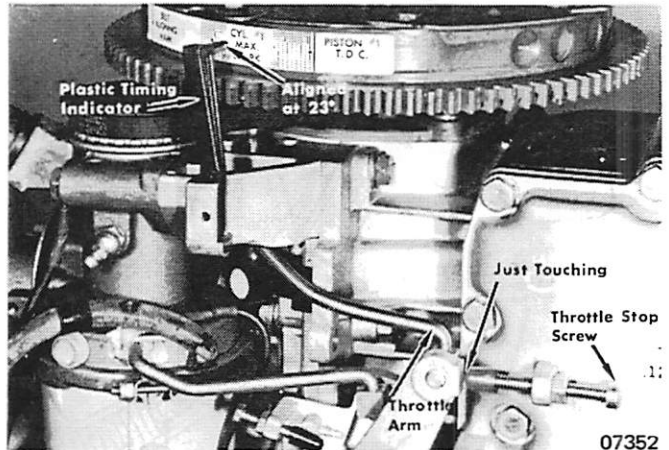

Figure 4. Adjusting Throttle Stop Screw
1. Advance throttle arm to wide-open. Adjust throttle stop screw to allow full carburetor butterfly opening, but do not allow throttle shutters to act as a stop. Allow sufficient clearance (.010"-.015") to prevent throttle linkage from binding. Tighten locknut. (Figure 4)